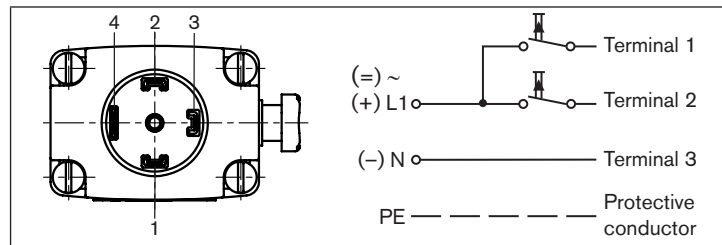

Fig. 4: Electrical connection - pulse model (CF 02)
- Connect as shown in “Fig. 4”. Pulse on terminal 1 closes the valve; pulse on terminal 2 opens the valve.